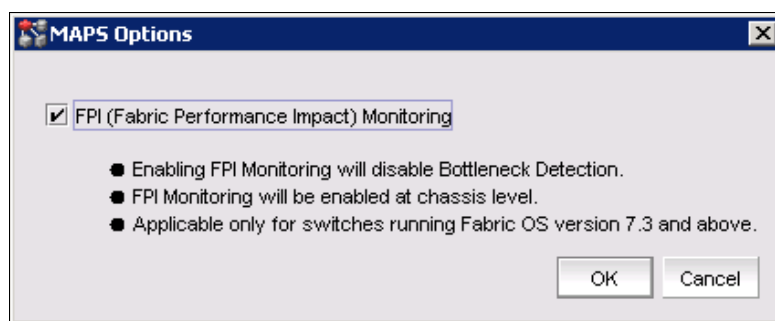

Figure 7-7 Shows the MAPS Options panel with FPI check box set
3. Select the **Options** button to display the MAPS Options window (Figure 7-7). Select **FPI (Fabric Performance Impact) Monitoring**.